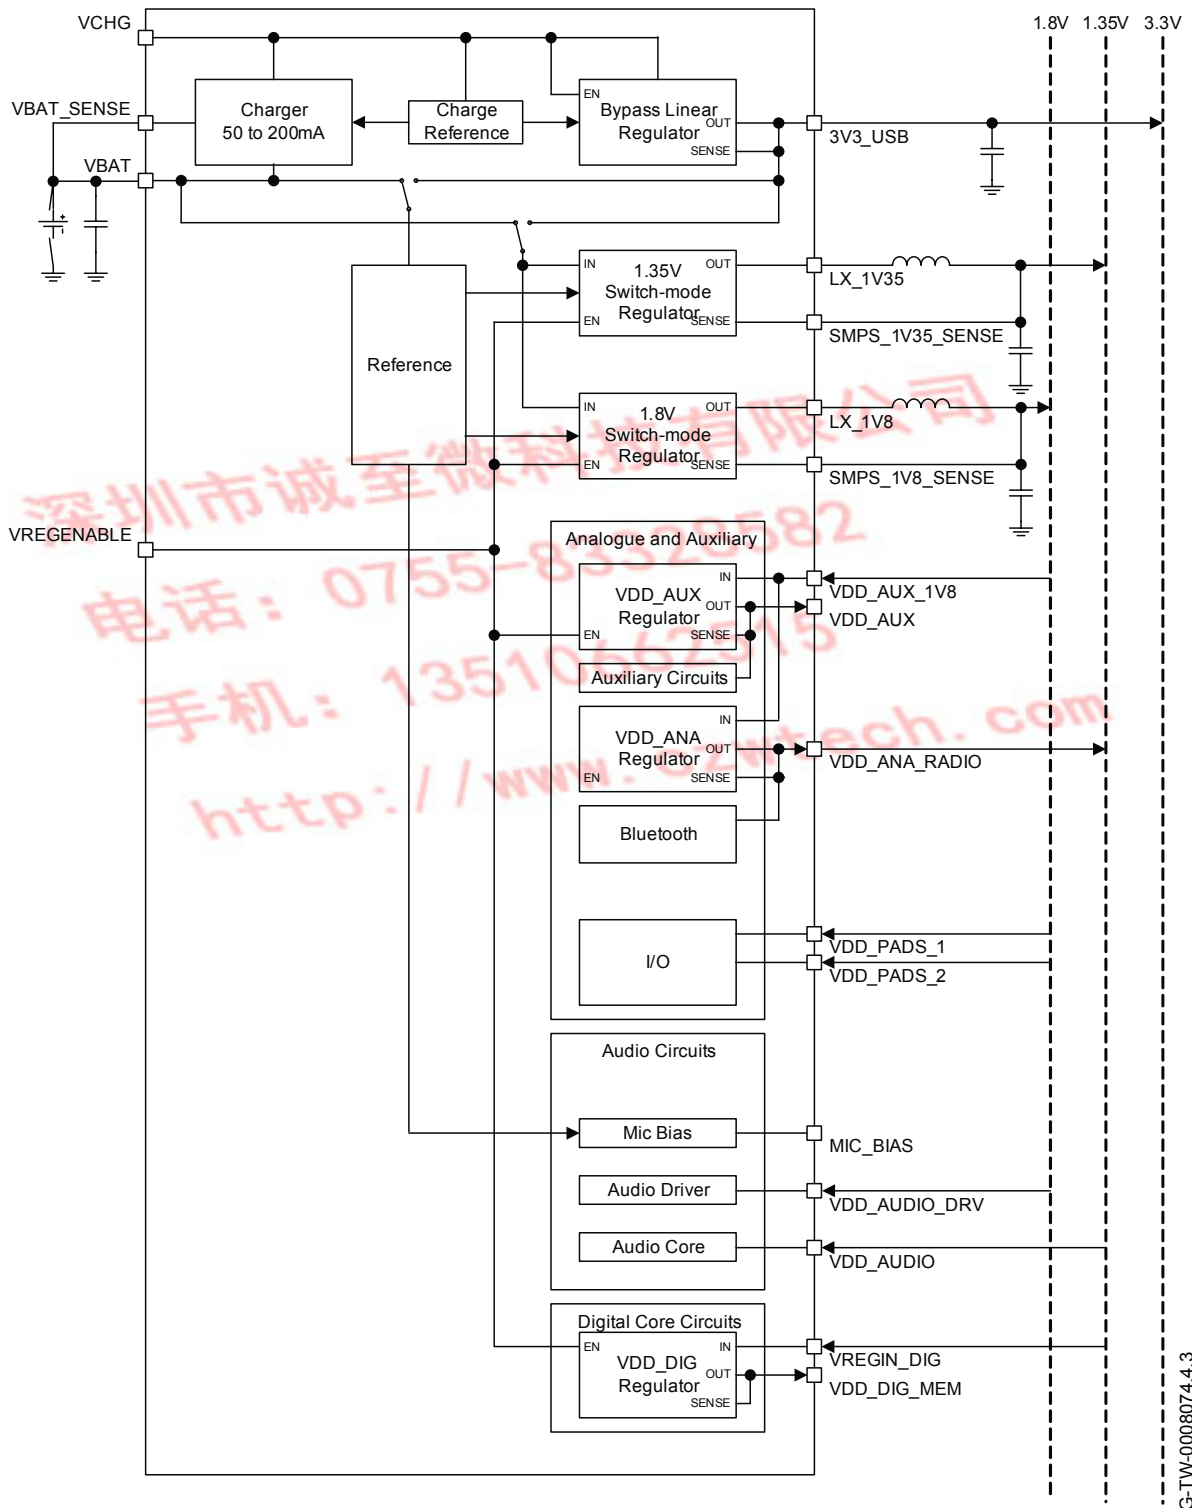

Figure 10.1: 1.80V and 1.35V Dual-supply Switch-mode System Configuration
- A 1.80V and 1.35V dual-supply rail system using the 1.80V and 1.35V switch-mode regulators, see Figure 10.1. This is the default power control and regulation configuration for the CSR8645 BGA.